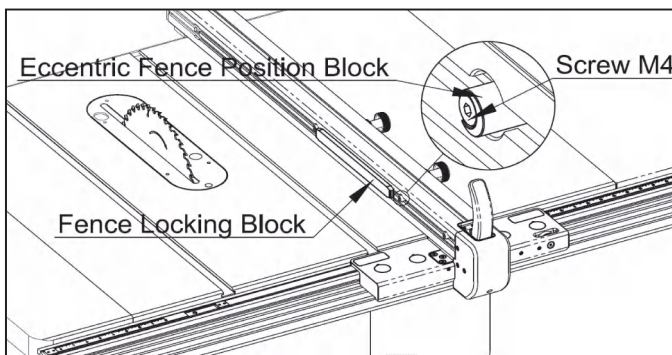

Fig. 6-26
- As shown in Fig. 6-26, loosen the M4 screws on the three fence eccentric position blocks with a 2.5mm hex wrench.